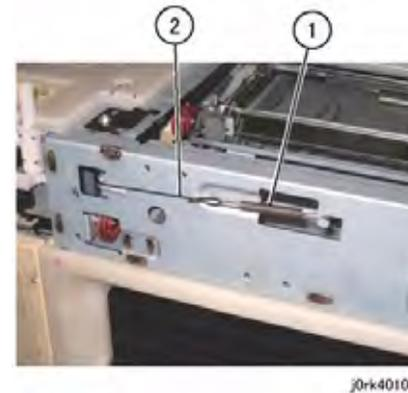

Figure 4 Carriage Cable Removal
7. Remove the Carriage Cable (Figure 4)